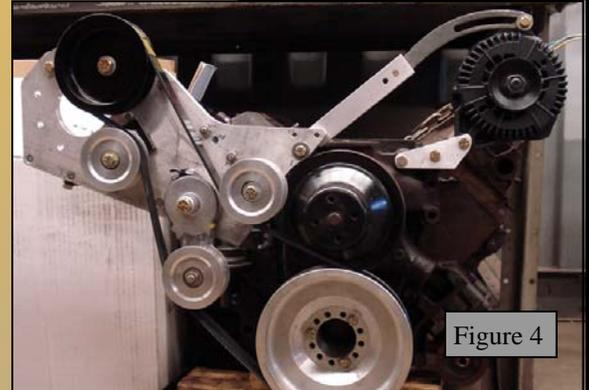

Figure 4
9. Roughly route the belt as shown in Figure 4 with the slide idler all the way up. Tighten the eccentric idler to the bracket with the yellow strip facing up. Push the tensioner into the belt until tight and note it's position.
1. Your stock alternator arm sits in the channel of the SDCE aluminum bracket, and is secured with a single 3/8-16 bolt. The SDCE alternator bracket bolts to the supercharger bracket from the back as shown in Figure 4.
2. The lower bracket mounts to the factory power steering upper bolt (2), and the water pump bolt just inboard of it (1).